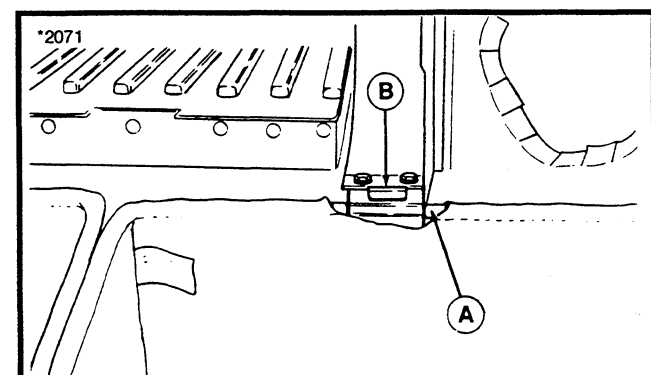

Figure 8.
9. Open grass bag cover and install grass bag frames (A, figure 8) to support brackets (B). Make sure cover handle latches to grass bag frames.